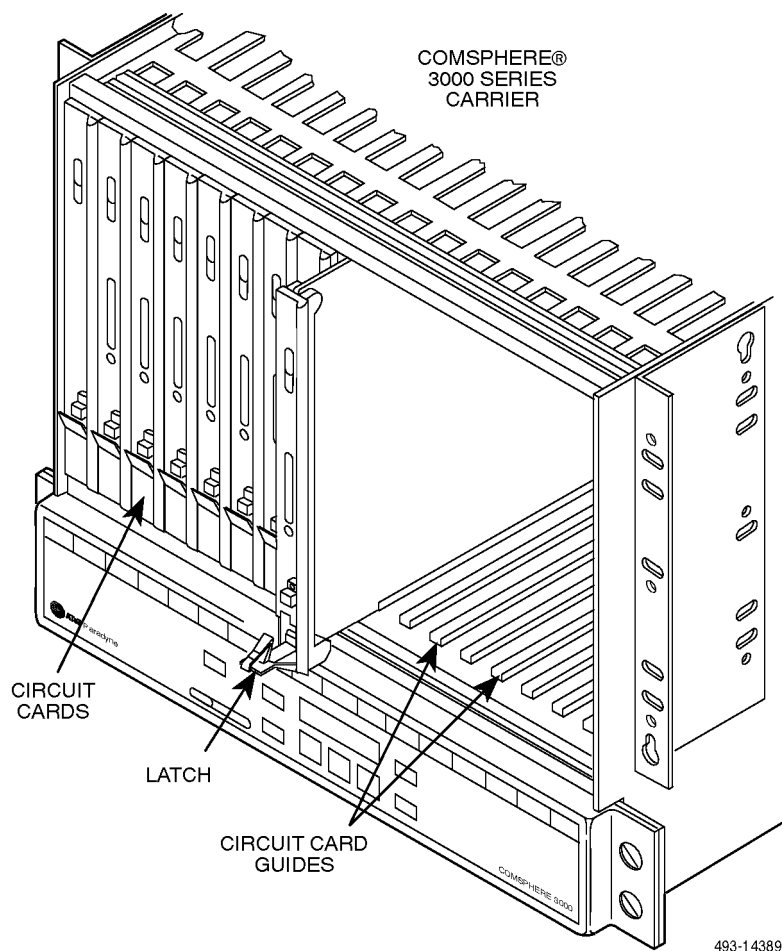

Figure 3-37. Circuit Card Installation
5. At the front of the carrier, hold the modular circuit card vertically with the latch on its faceplate in the open position. Then, insert the circuit card into the top and bottom circuit card guides (Figure 3-37).
3. At the front of the carrier, hold the circuit card vertically, with the latch on its faceplate in the open position (Figure 3-37). Insert it into the top and bottom card guides of one of the slots numbered 1 through 16.
3. Slide the card into the slot. The ejector latch lifts up as it engages the metal flange (refer to Figure 3-37).
2. Hold the filler panel vertically at the front of the carrier, with the faceplate latch in the open position. Insert the blank circuit card into the top and bottom card guides of the empty slot (Figure 3-37), and tighten the screw.